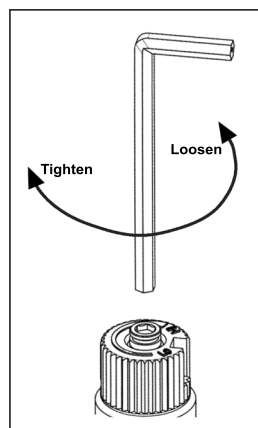

Figure 13: Removing valve screw.
- d) Insert a 5/32" or 4 mm Allen wrench into the hexagonal key-way of the screw (Figure 13), rotate it counter-clockwise until it is free and extract it.
- f) Using the Allen wrench (Figure 13), rotate the screw clockwise.